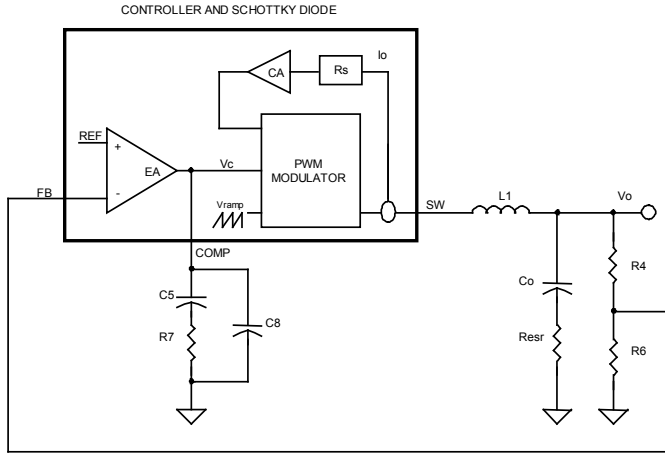

Figure 7. Block diagram of control loops
The block diagram in Figure 7 shows the control loops of a buck converter with the SC4524B. The inner loop (current loop) consists of a current sensing resistor ($R_s=6.1\text{m}\Omega$) and a current amplifier (CA) with gain ($G_{CA}=28$). The outer loop (voltage loop) consists of an error amplifier (EA), a PWM modulator, and a LC filter.
For a converter with switching frequency F_{SW} output inductance L_1 , output capacitance C_o and loading R , the control (V_c) to output (V_o) transfer function in Figure 7 is given by: